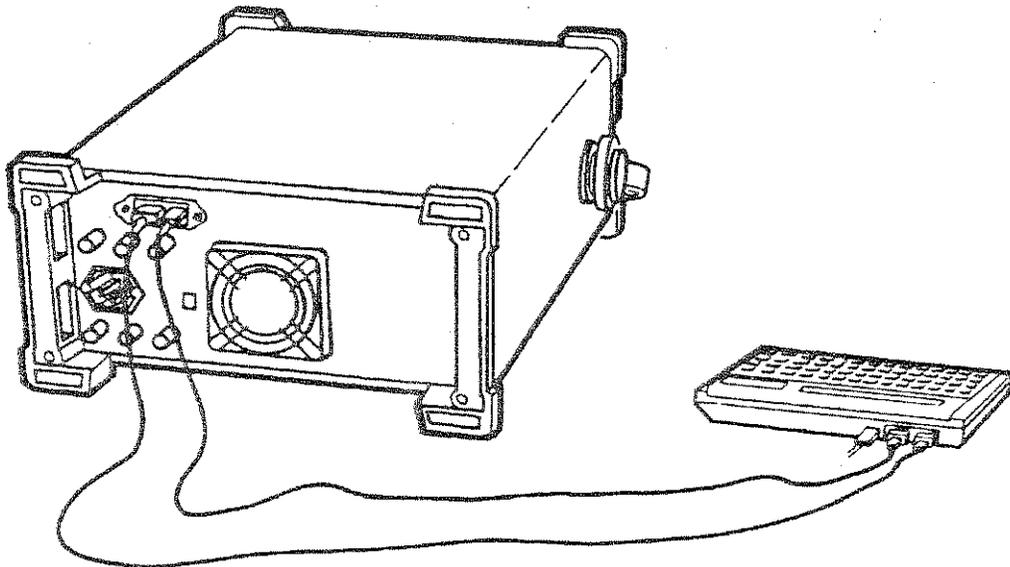

Figure 1-6
2. Using the two HP-IL cables, connect the analyzer to the computer, as shown in Figure 1-6.